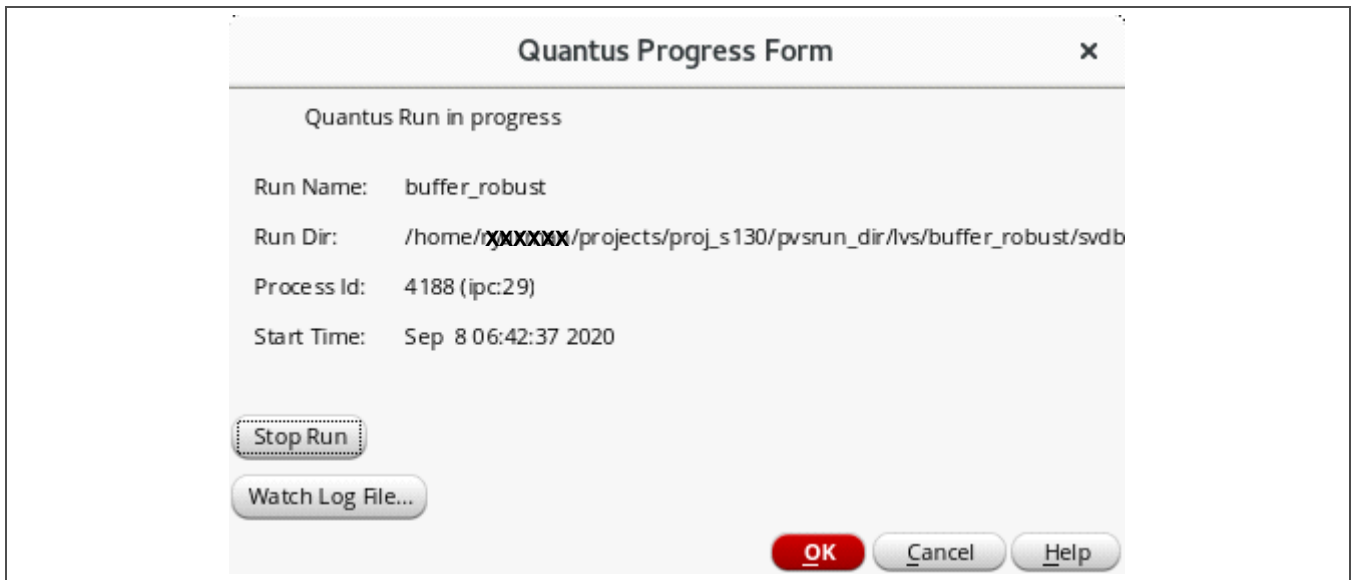

Figure 6-11. Quantus (PVS) Progress Form
5. *Figure 6-11* is an example of the Quantus Progress Form. When it opens, click the **Watch Log file...** button to view the run progress.